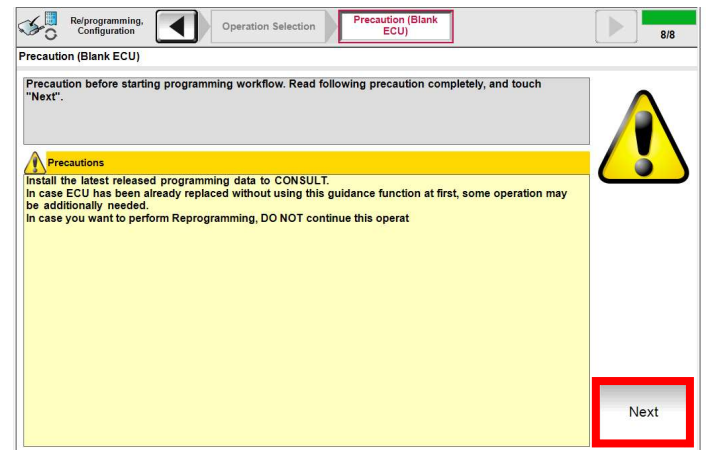

Figure 22
24. Select **Next** after reading precaution. (Figure 22)